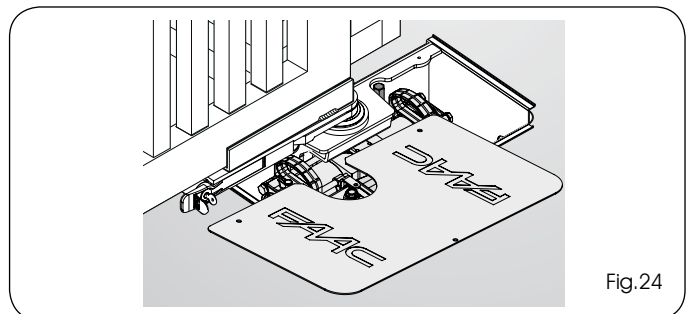

Fig.24
- 3) Secure the cover of the bearing case with the supplied screws (Fig.24;25).